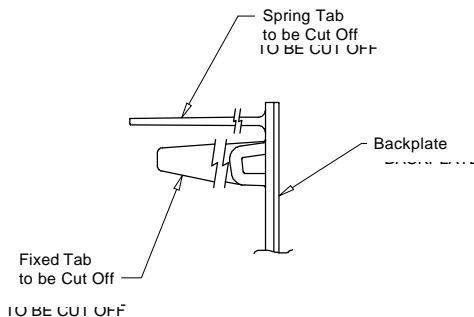

Figure 1
1. Cut spring tab and fixed tab off of backplate (see Figure 1).